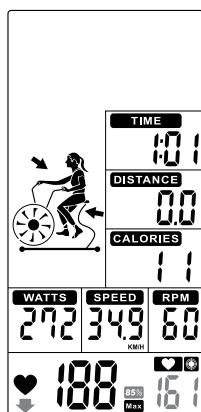

Figure 48
- ⑤ When Heart Rate exceeds to 85%, **85%** & value will flash. And buzzer sounds in every 10s until user HR goes below 85% (Figure 48).